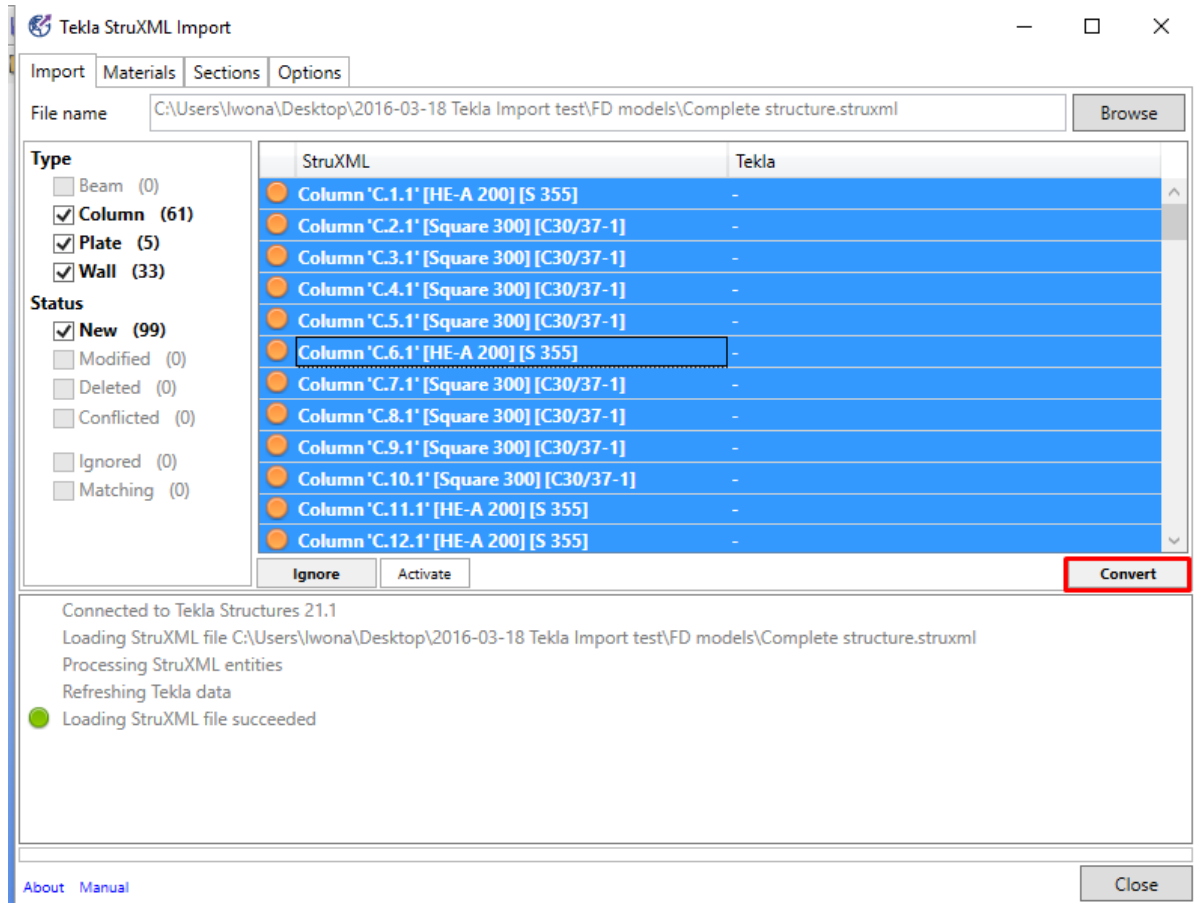

Figure 2-23
- select one random object and press Ctrl+A in order to select all objects (Figure 2-23)